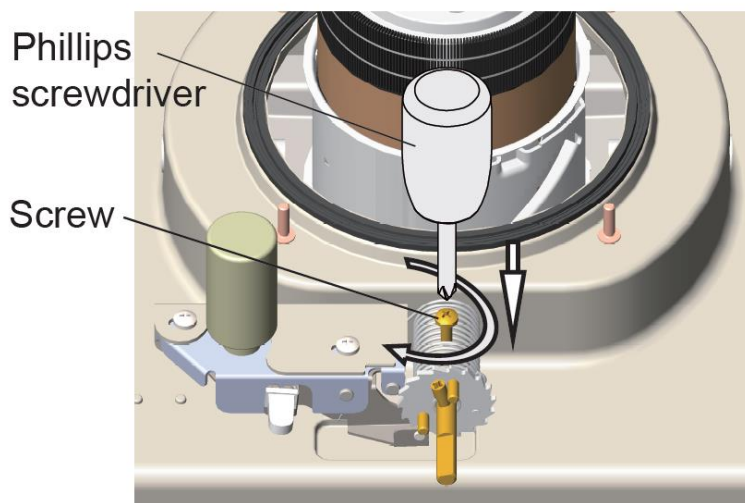

Fig. 20
9. With a phillips screwdriver clockwise rotating to fastening of the on the tube screw, locating gear shaft. (Fig.20)